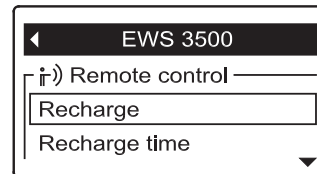

FIG. 129
2. Press the remote's SELECT (○) button to display the device menu (See Figure 129).